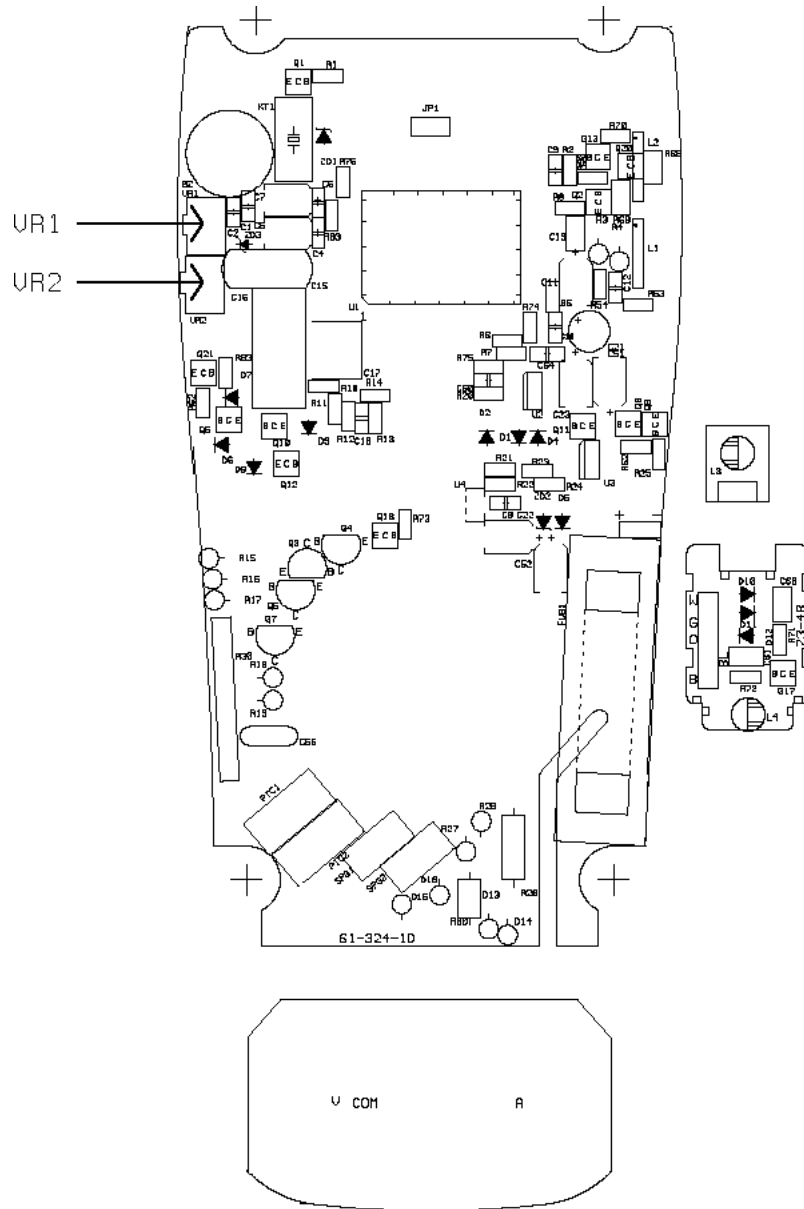

Figure 3 - Calibration Adjustment Points
(A) DCV Calibration (Adjust VR1 – Figure 3)
(B) ACV Calibration (Adjust VR2 – Figure 3)